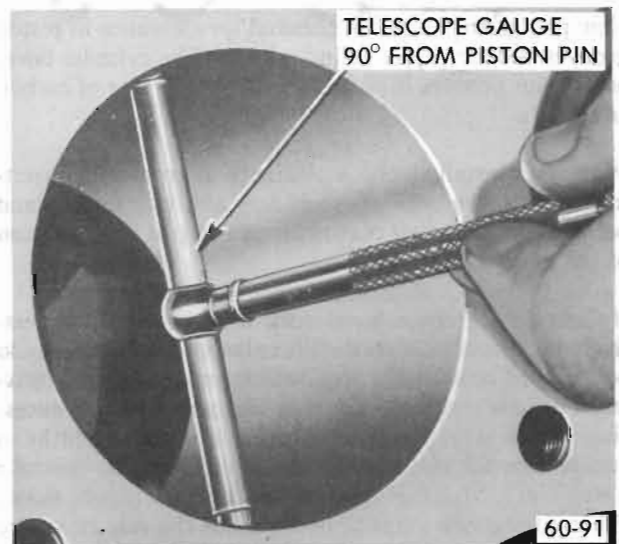

Figure 60-98 - Checking Cylinder Bore
1. Expand a telescope gage to fit the cylinder bore at right angles to the piston pin and between 1-1/2" and 2" from the top. See Figure 60-98.